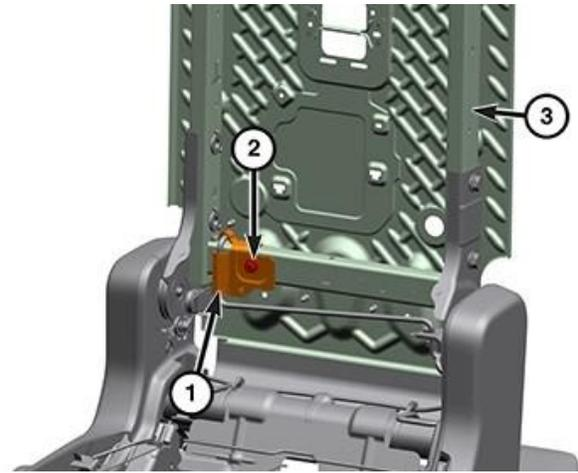

Figure 61 – Seat Back Torsion Spring
30. Remove the bolt (2) and retainer (1) securing the seat back torsion spring (Figure 61).
50. Install the retainer (1) and bolt (2) securing the seat back torsion spring. Tighten the bolt to 10 N·m (89 in. lbs.) (Figure 61).